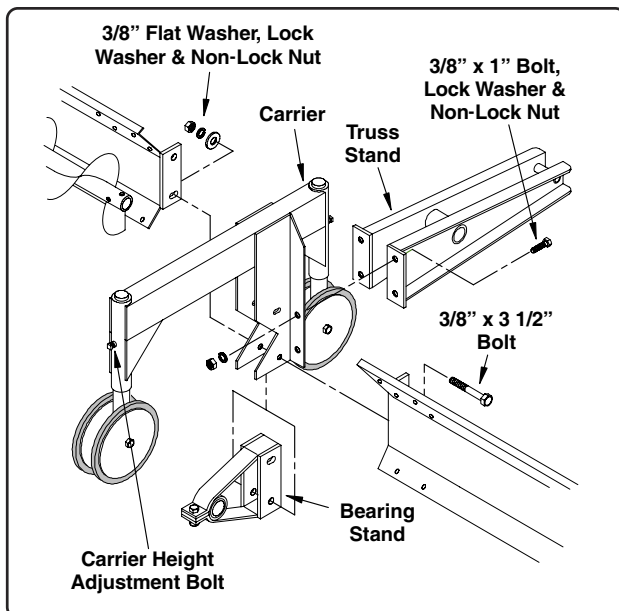

Fig. 12
1. The carrier needs to have a bearing stand inserted between the mounting angles before the shields can be attached (See Fig. 12).
2. Attach the truss stand to the carrier (See Fig. 12) and secure using four 3/8" x 1" bolts, lock washers and non-lock nuts.